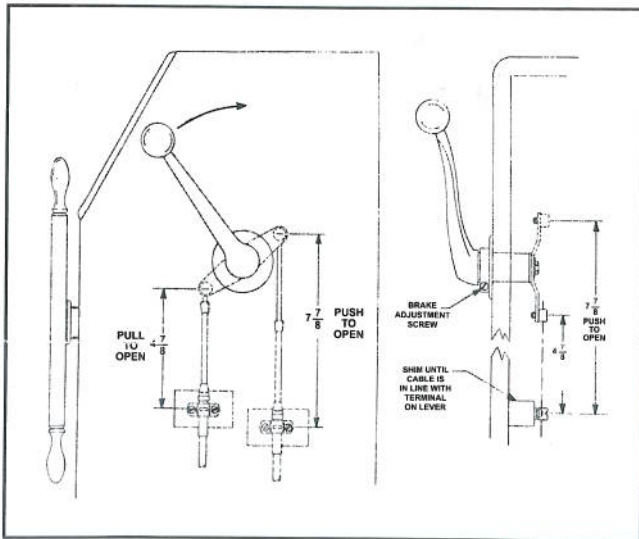

FIGURE 1
Determine whether PUSH TO OPEN or PULL TO OPEN cable travel is required. Figure 1 illustrates the two basic throttle arm positions.
- Remove cable terminal (14) from throttle arm (10). Thread terminal onto cable rod until 3/16" is through terminal. Hold terminal to prevent it from turning and tighten cable nut against terminal. Replace terminal in throttle arm and secure with cotter pin (16).
- Mount cable clamp (13) and shim (15) in line with throttle arm (See Fig. 1) and positioned so that movement of the cable sleeve from its center position is equal when the control head hand lever is moved from idle to full throttle. It may be necessary to shim further under the cable clamp as illustrated in Figure 1.
- To adjust position of control head hand lever, loosen setscrew (18), pull hand lever off shaft (3), reposition as desired and tighten setscrew.